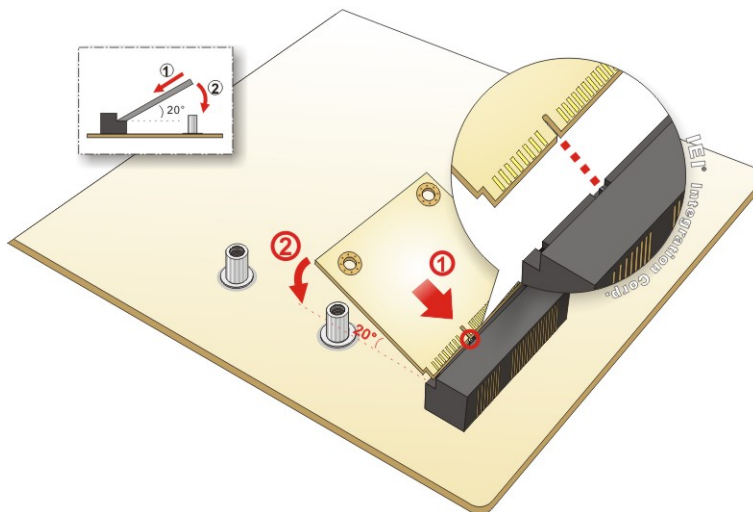

Figure 3-11: Inserting the Half-size PCIe Mini Card into the Slot at an Angle
Step 2: Line up the notch on the card with the notch on the slot. Slide the PCIe Mini card into the socket at an angle of about 20° (**Figure 3-11**).